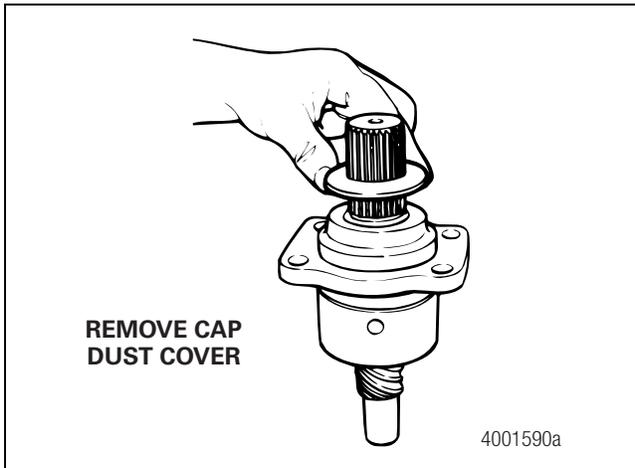

Figure 7.4
7. Remove the dust cover from the camshaft. Figure 7.4.